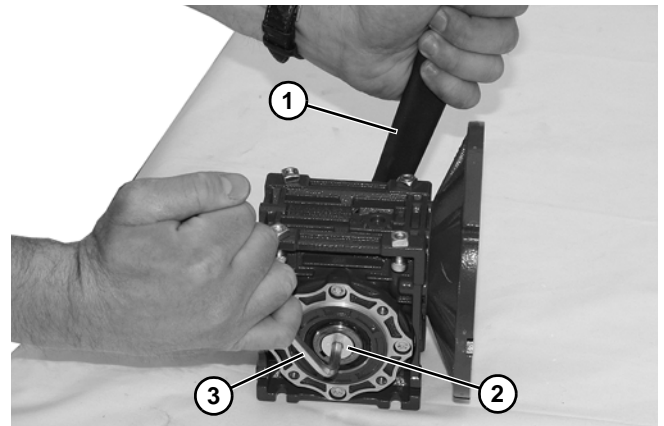

Figure 22
8. Hold the driveshaft with a wrench (**Figure 22, item 1**) as shown to keep shaft from turning, while removing screw (**Figure 22, item 2**) with hex wrench (**Figure 22, item 3**).
Output shaft (**Figure 22, item 1**) is held in Gear Reducer with a tapered press fit. Removal may require use of an arbor press.
14. Hold the driveshaft with a wrench (Figure 22, item 1) as shown to keep shaft from turning, while installing screw (Figure 22, item 2) with hex wrench (Figure 22, item 3). Tighten screw to 350 in-lb (39.5 Nm).